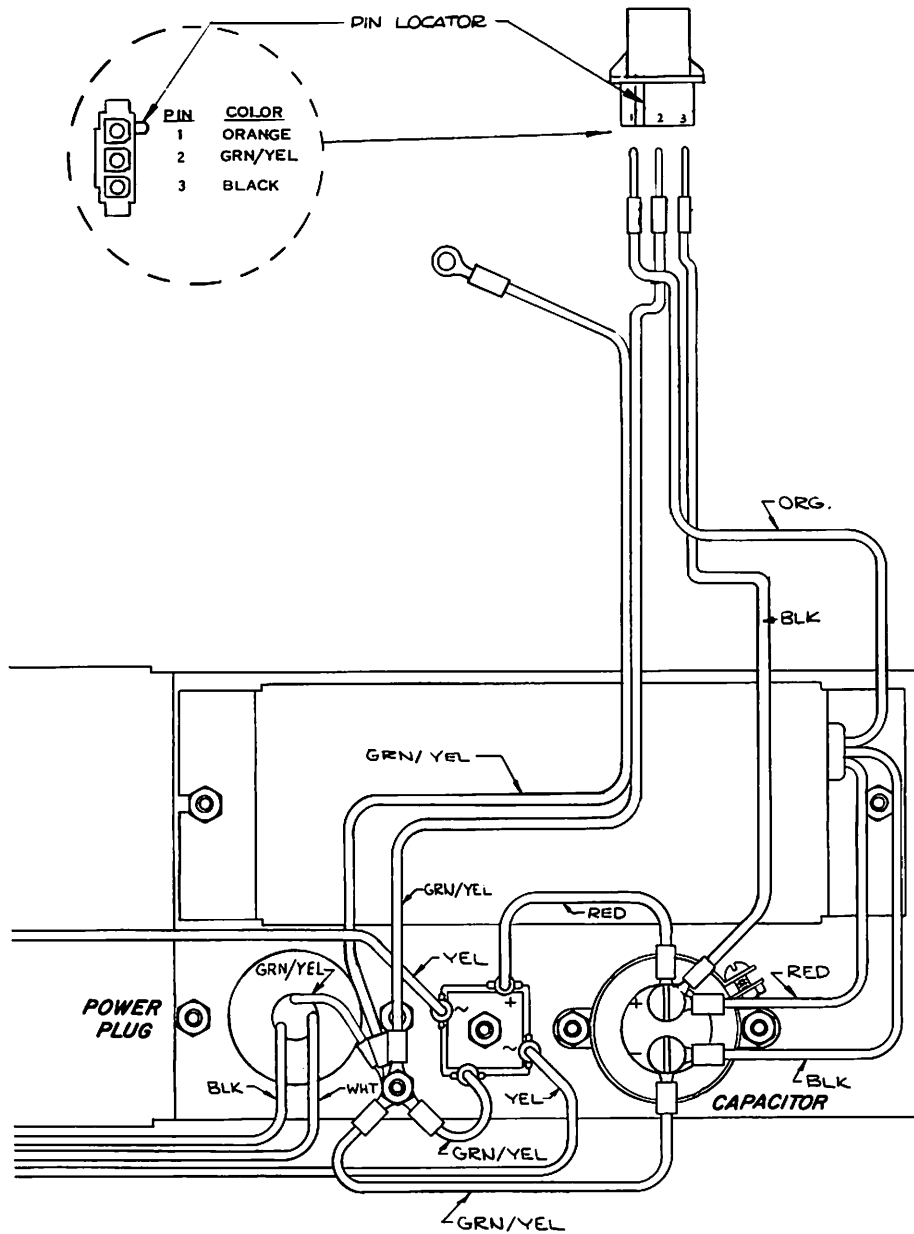

Figure 10-10
21. Attach the red wire spade terminal to the rectifier's positive terminal. See Figure 10-10.